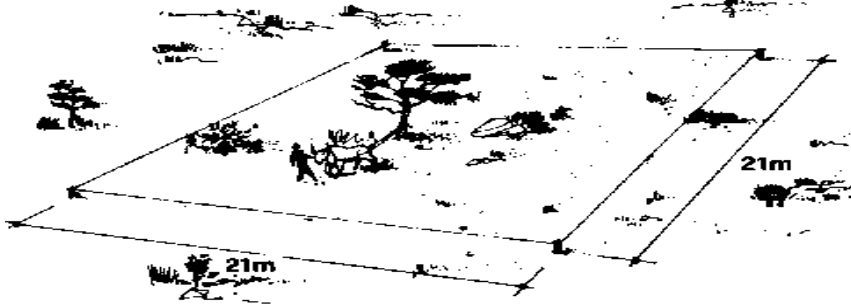

Fig.3 Measuring and marking the selected site for construction.
- Begin the excavation (digging).It could be done by machine or manpower. This is illustrated in Fig.3